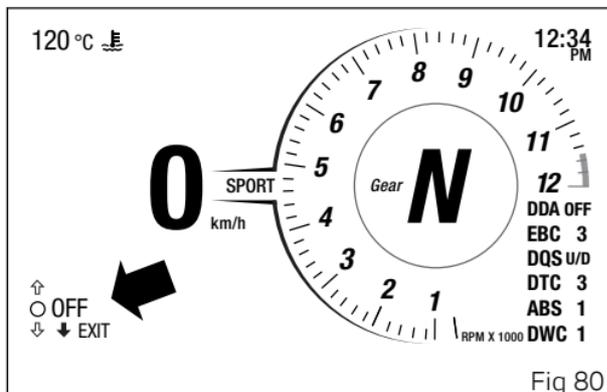

Fig 80
- current level (Fig 80) is displayed and rider can use the navigation buttons to scroll through the available levels (OFF, LOW, MEDIUM, HIGH);